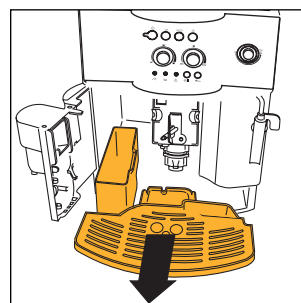

Fig. 16
NOTE 7: the machine counts the number of cups of coffee made. Each 14 single cups (or 7 double cups), the 📊 light switches on steady (chap. 12 point 3), warning the user that the grounds container is full and must be emptied and cleaned. Until the grounds container has been cleaned, the light will remain on and the machine cannot deliver coffee. To clean, open the service door at the front by pulling the spout (fig. 15). The ⚠ light flashes (see par. 12 point 9). Remove the drip tray (fig. 16), empty and clean. Empty and carefully clean the grounds container, making sure to remove all the residues that may be deposited on the bottom. Also dry any drops of condensate that may have formed inside the machine under the drip tray. **IMPORTANT:** when removing the drip tray, the grounds container **MUST** be emptied, even if it is not completely full. If this is not done, when next making coffee the grounds container may fill over the maximum level and block the machine with lumps of coffee grounds.
- remove the drip tray and the grounds container (Fig. 16) and clean them;